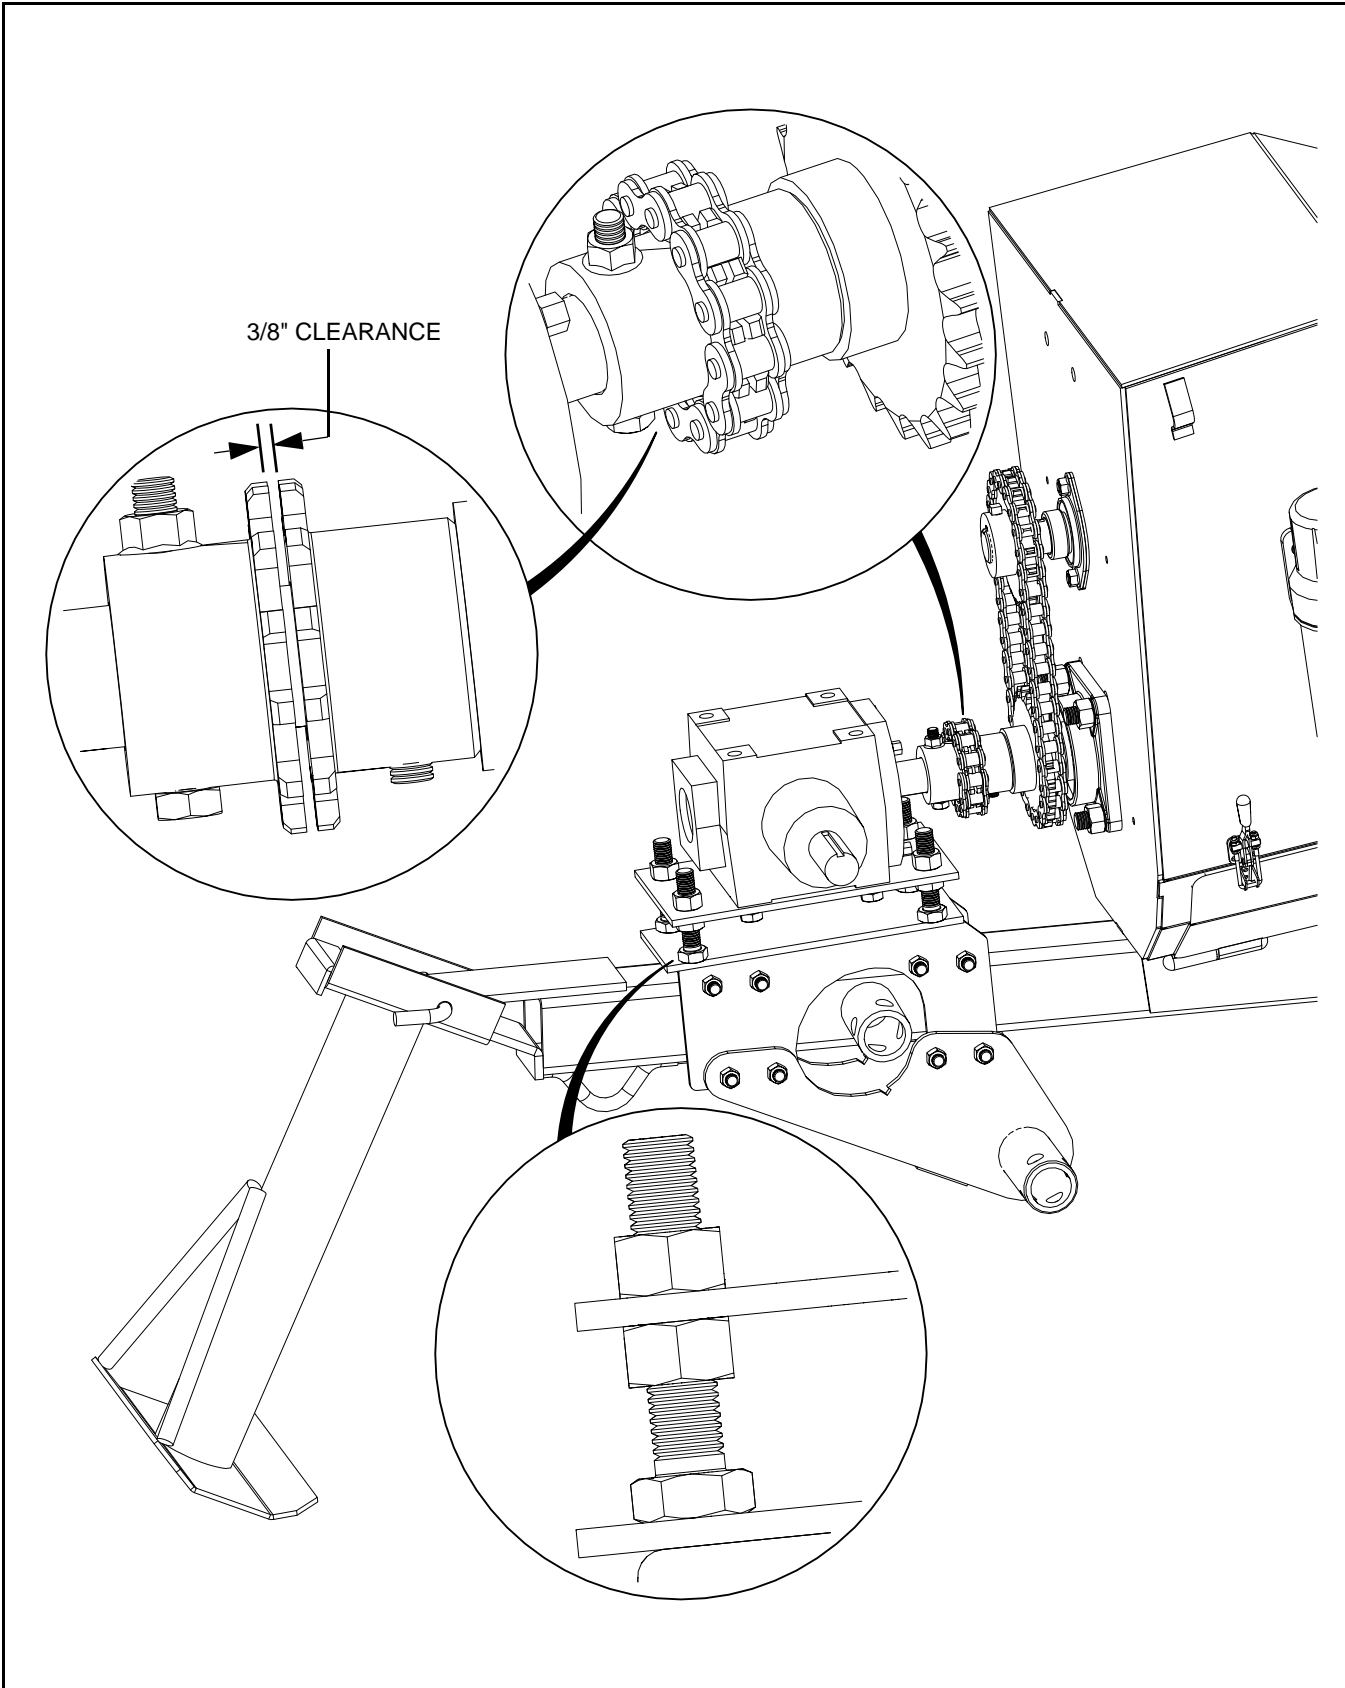

Figure 5 Adjusting Gearbox and Installing Coupler Chain
7. Align the coupler sprockets by adjusting gearbox vertically and horizontally. Leave about 3/8" clearance between sprockets as shown in Figure 5.
11. Install the coupler chain on the coupler sprockets (see Figure 5).